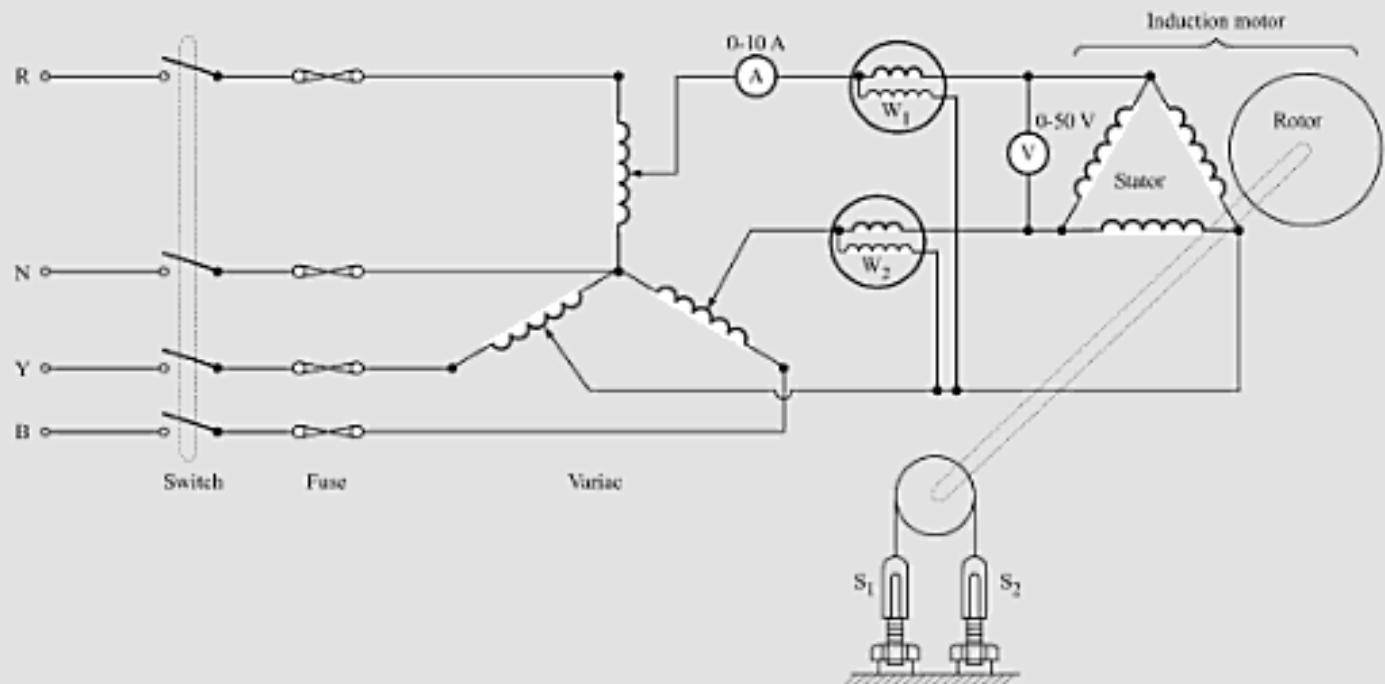

Fig. 15.15 Circuit arrangement to conduct load test on a 3-phase, squirrel-cage induction motor.
**Input Power** The input power  $P_{in}$  to the motor can be determined from the readings of the two wattmeters connected in the input circuit (see Fig. 15.15). If  $P_1$  and  $P_2$  are the readings of the two wattmeters, the input power is given as
1. Make the connections as shown in Fig. 15.15.